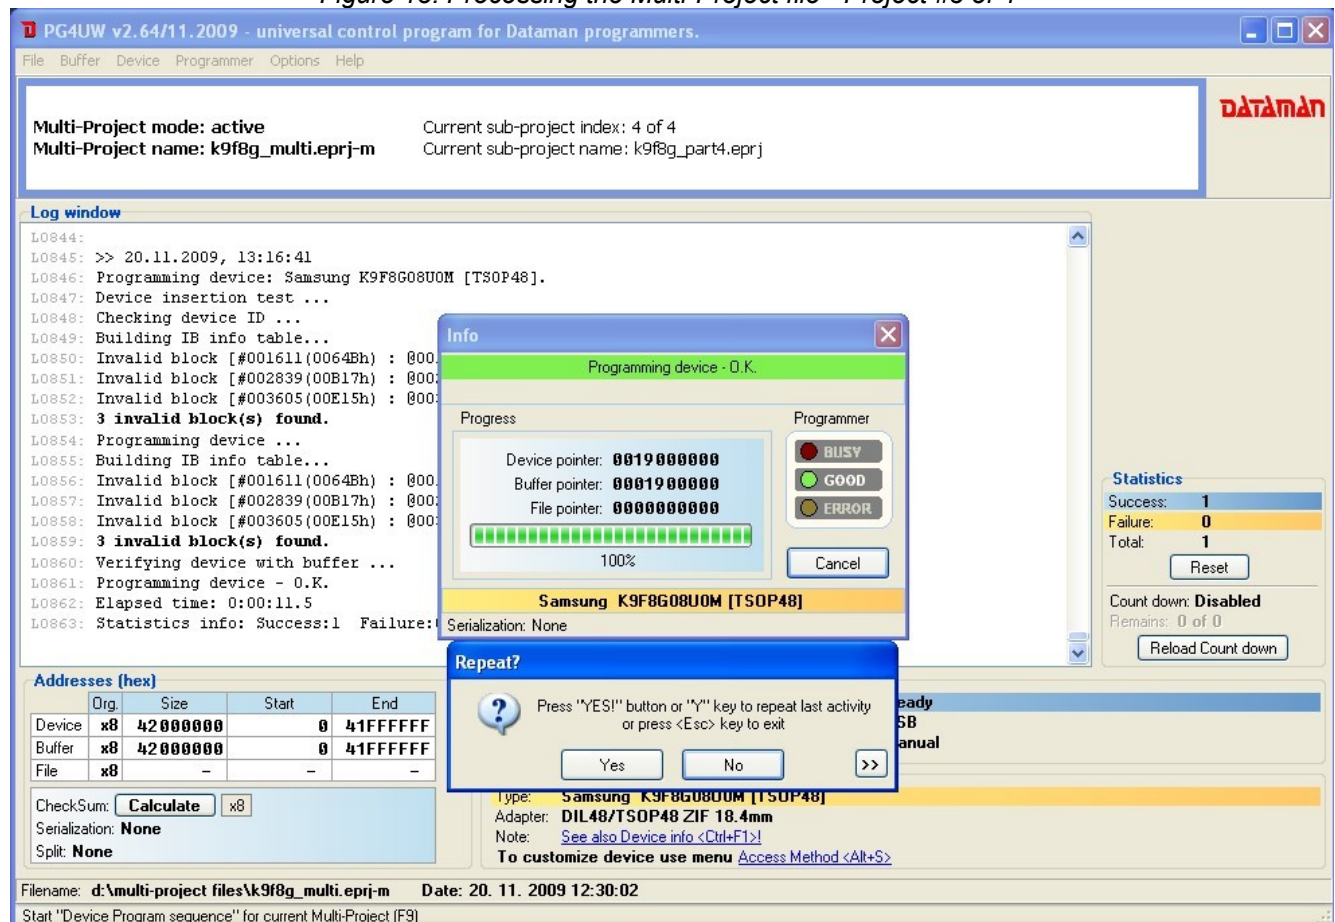

Figure 14: Processing the Multi-Project file - successful completion with Repeat dialog window
3. After programming (verifying, ...) of all Sub-devices is finished (or error occurs), standard Repeat dialog window is displayed (see Figure 14). Finished device can be removed from programmer socket and new device can be inserted. Pressing **Yes** button in Repeat dialog window or **YES!** button on programmer will start multi-chip device operation sequence again.